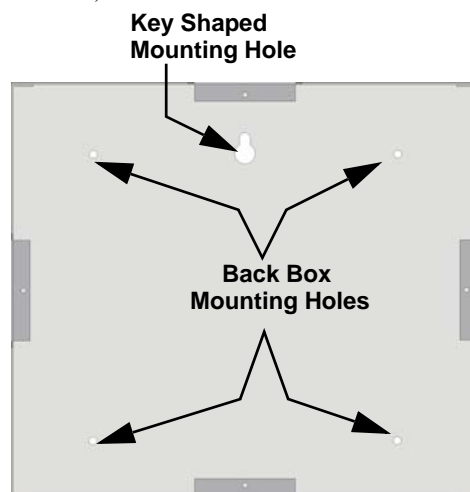

Figure 4-13 Back Box Surface Mount Holes
2. To properly mount the back box, insert a single screw into the key shaped mounting hole. Do not tighten all the way. See Figure 4-13.